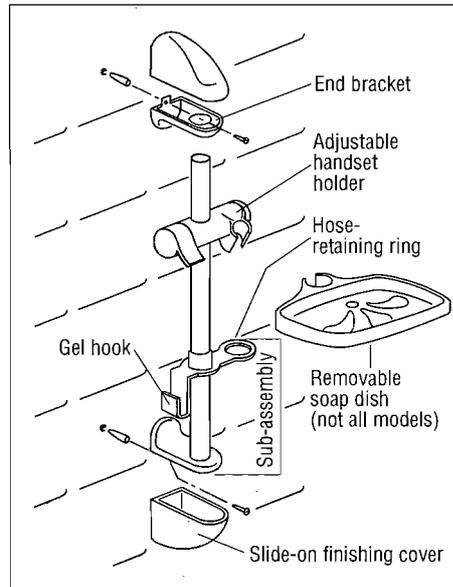

Figure 4.25
4.28 Assemble the handset holder and the soap dish holder (incorporating gel-hook and hose retainer) onto the riser rail and slot into bottom end bracket. See sub-assembly Fig. 4.25. NB Soap dish and gel hook are not supplied with all models.